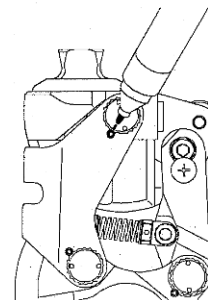

Fig. 3
a) To measure the tightening amount of the toothed knobs, make a mark on the root thread of knob **A** which is in contact with the clamping screw (Fig. 3).